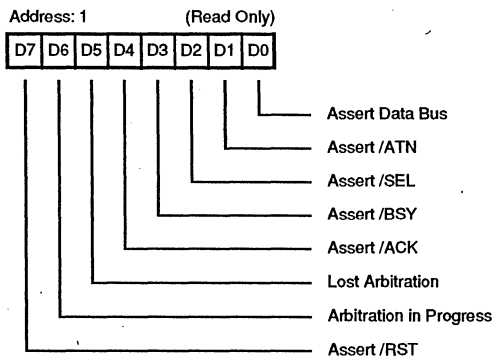

Figure 6. Initiator Command Register
**Initiator Command Register.** *Address 1 (Read/Write).* The Initiator Command Register (Figures 6 and 7) are read and write registers which assert certain SCSI Bus signals, monitors those signals, and monitors the progress of bus arbitration. Many of these bits are significant only when being used as an Initiator; however, most can be used during Target role operation.